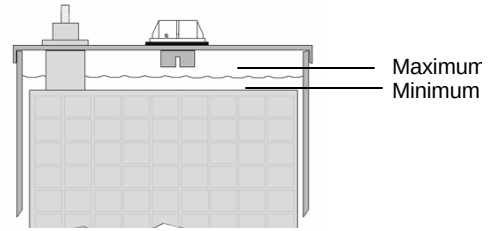

Figure 2 - Electrolyte
- Add distilled water carefully to the proper level in cells as required only after they have been fully charged. Do not fill them so high that they bubble over while charging. New batteries require very little addition of distilled water, whereas very old batteries may require additional distilled water two or three times a week. Water (electrolyte) levels drop as batteries are discharged and rise during charge. Adding water when batteries are fully charged will reduce the probability of overfilling. See Figure 2.